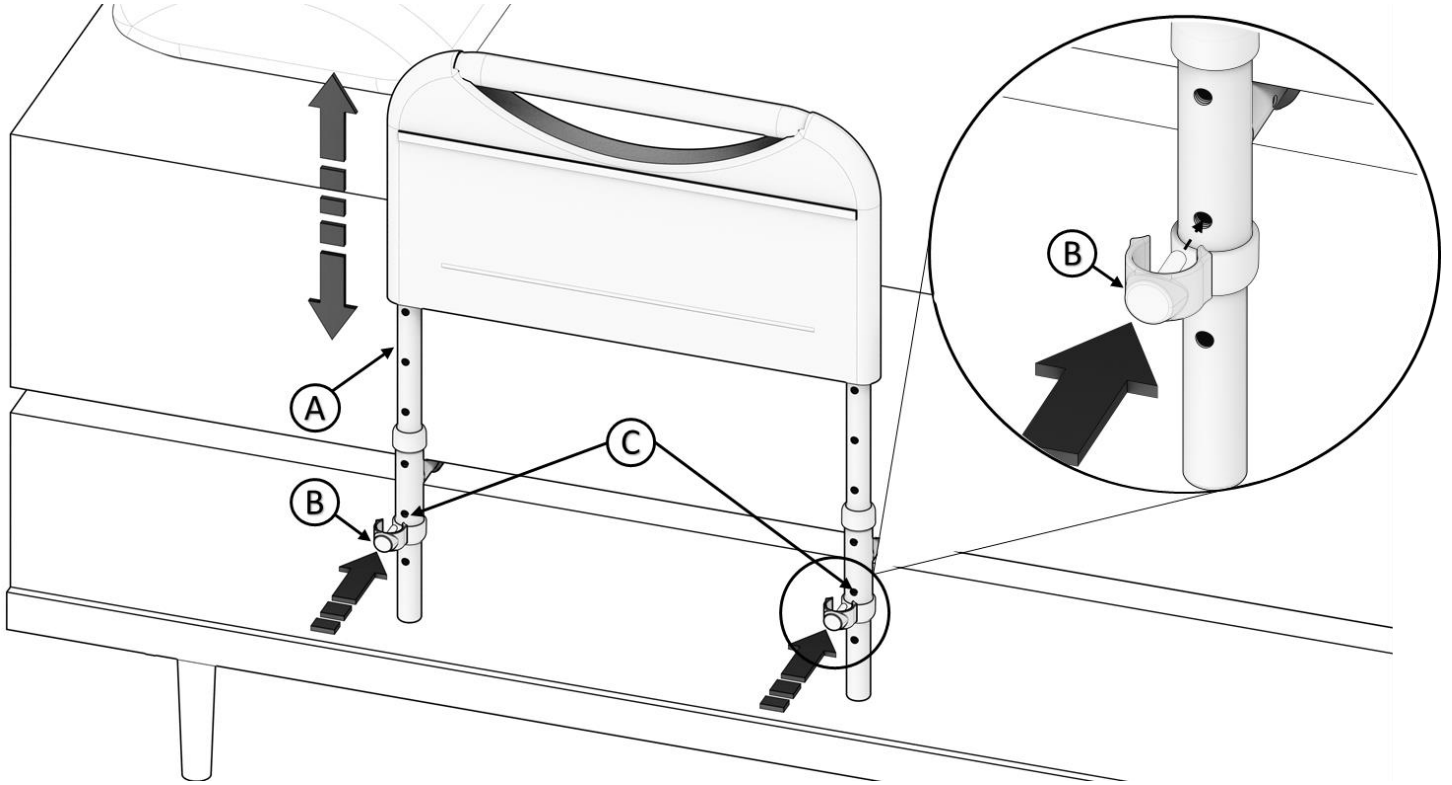

FIGURE 3
3. Place product between mattress and box spring as shown in Figure 3; Position top of handle (Part **A**) at a minimum of 4in (10.25cm) above top surface of mattress. Secure height adjustment by inserting Part **B** through Part **C** and **A**.